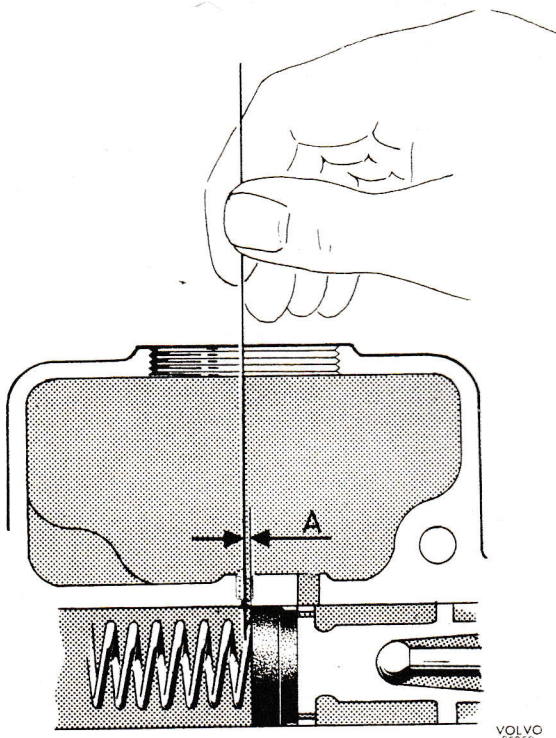

Fig. 23. Checking the equalizing hole.
2. Fit the rear packing on the plunger (8). Dip the plunger and packing (9) in brake fluid and then press them into the cylinder. Fit the stop washer (7) in position and fit the locking ring (6).
3. Place the push rod (4) in the plunger (8) and force the rubber cover (5) over the shoulder on the master cylinder. Fit the three-way union (1) with the brake stoplight contact.
4. Check that the equalizing hole is not blocked by inserting a 0.5 mm (0.02") thick wire through the equalizing hole (Fig. 23). It should then be possible to press in the plunger about 0.5 mm (0.02") (measurement A) before the wire jams. Be careful not to damage the pack-